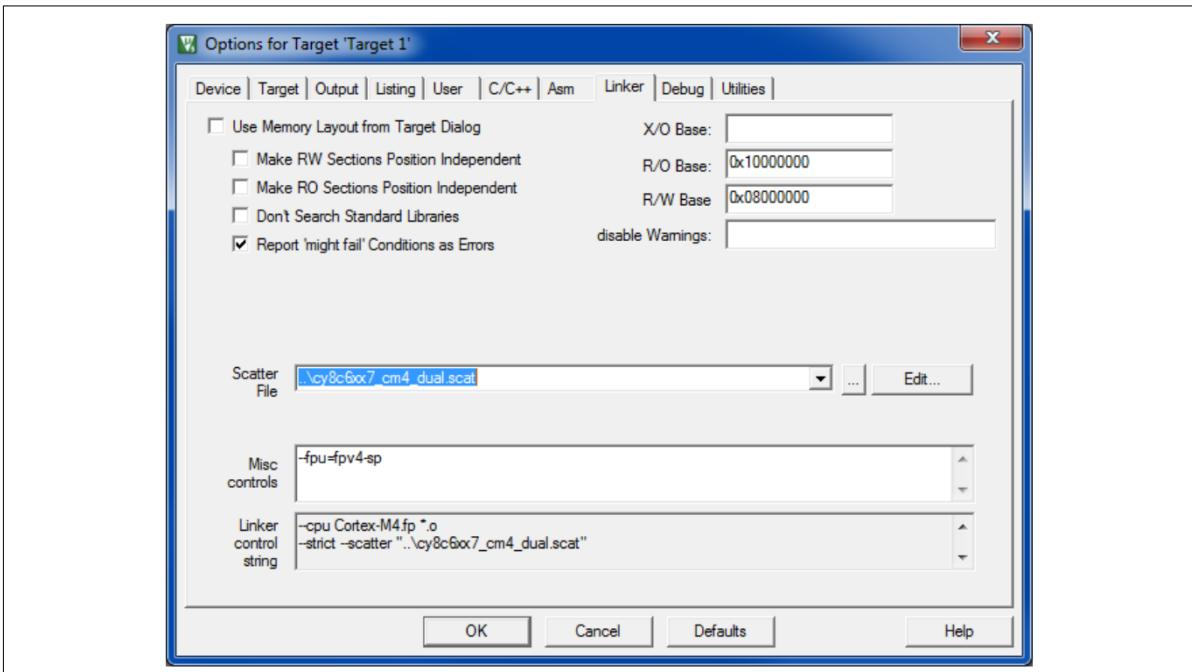

Figure 429 Linker options for CM4 project
- In the **Options** dialog, **Linker** tab, select the “cm4_dual” scatter file, as Figure 429 shows. The CM4 project will contain code for both CPUs. Add `--fpu=fpv4-sp` to **Misc Controls**